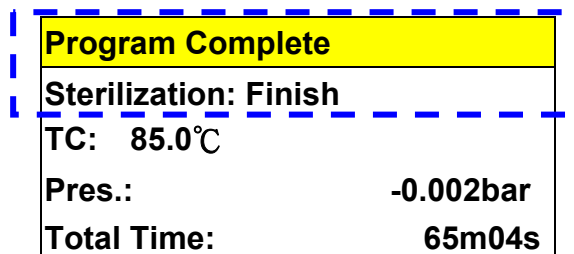

Figure 65– Program Complete
I. On completion, the buzzer will sound and the Program Complete message is displayed as shown in Figure 65.